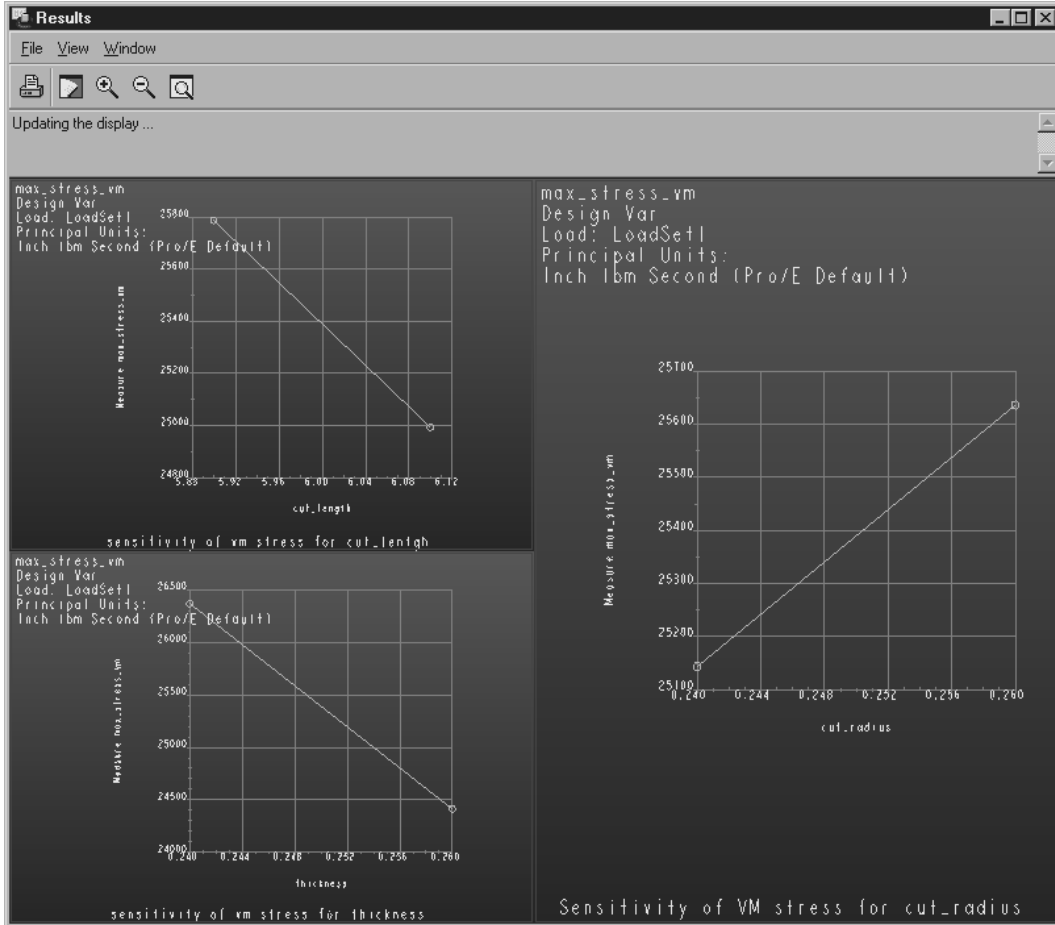

Figure 39: Local Sensitivity Study Parameter Results
11. Look at the three graphs in Figure 39. To understand the results, look at the variation of the VM stress versus each parameter. Establish the relationship between each measure and the Von Mises stresses.